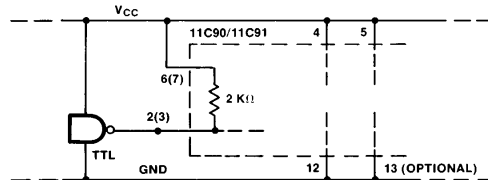

FIGURE 5. Using Internal Pull-Up with TTL Source
**Note 4:** The M1 and M2 threshold specifications are normally referenced to the VCC potential, as shown in the ECL operation tables. Using VEE (GND) as the reference, as in normal TTL practice, effectively makes the threshold vary directly with VCC. Threshold is typically 1.3V below VCC (e.g., +3.7V at VCC = +5V). A signal swing about threshold of ±0.4V is adequate, which gives the state VIH and VIL values. The internal 2 kΩ resistors are intended to pull TTL outputs up to the required VIH range, as discussed in the Functional Description and shown in Figure 5.
When an M input is to be driven from a TTL output operating from the same  $V_{CC}$  and ground ( $V_{EE}$ ), the internal 2 kΩ resistor can be used to pull the TTL output up as shown in *Figure 5*. Some types of TTL outputs will only pull up to within two diode drops of  $V_{CC}$ , which is not high enough for 11C90 inputs. The resistor will pull the signal up through the threshold region, although this final rise may be somewhat slow, depending on wiring capacitance. A resistor network that gives faster rise and also lower impedance is shown in *Figure 6*.